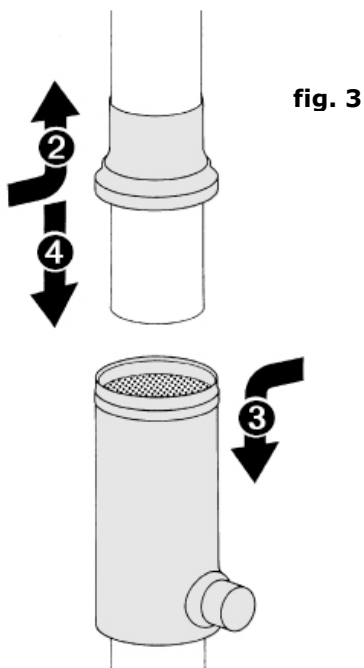

fig. 3
- 4.** Push the upper part downwards to lock the body. (**fig. 3**)